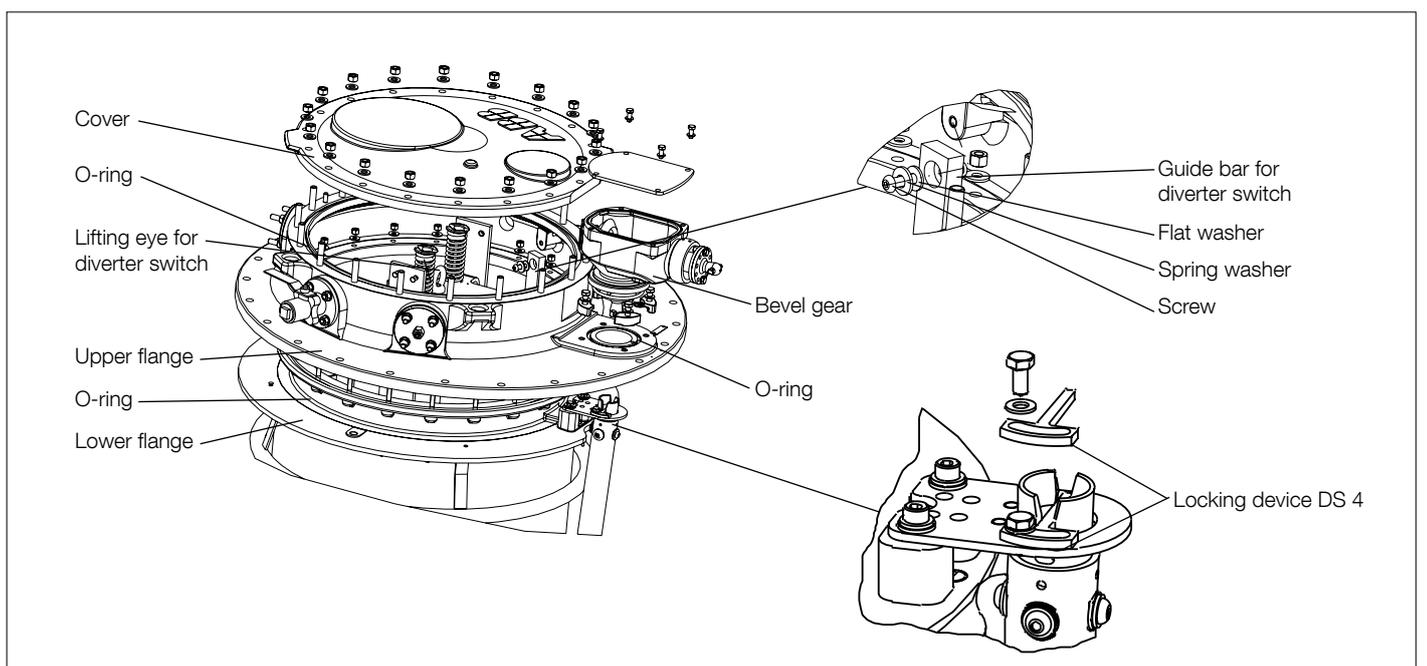

Fig. 13.
5. Remove the diverter switch housing cover (see Fig. 13) by removing the screws. Store the cover, fasteners and O-ring at a dust-free location.
7. Remove the diverter switch by carefully lifting it straight out of the diverter switch housing by its lifting eye; see Fig. 13. Store the diverter switch at a dry and dust-free location.
9. Remove the four clamp screws, M10 x 35, and the washers that hold the bevel gear; see Fig. 13. Note the position of the bevel gear. Carefully remove the gear housing, and put the parts in a safe place. Store the bevel gear at a dust-free location.
2. Remove the locking device DS 4 from the drive shaft; see Fig. 13.
10. Mount the guide bar for the diverter switch; see Fig. 13. Fit the washers and screws and tighten.